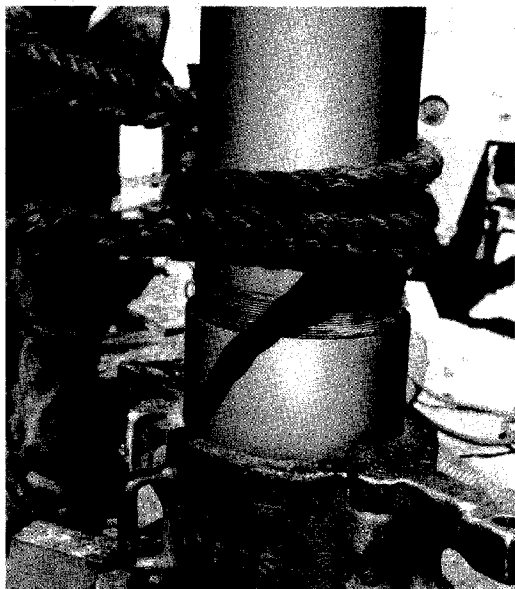

Fig. 7-8. Making A Column Joint.
F. Clean the threads at the lower end of the column section and lubricate them with thread compound or engine oil. Engage the column section with the coupling by hand. This joint can be tightened by means of a capstan drive and a suitable hemp rope (cat head and cat line) or by the use of chain tongs. (See Fig. 7-8.) The end of the column section must be butted tightly against the top of the bowl unit.